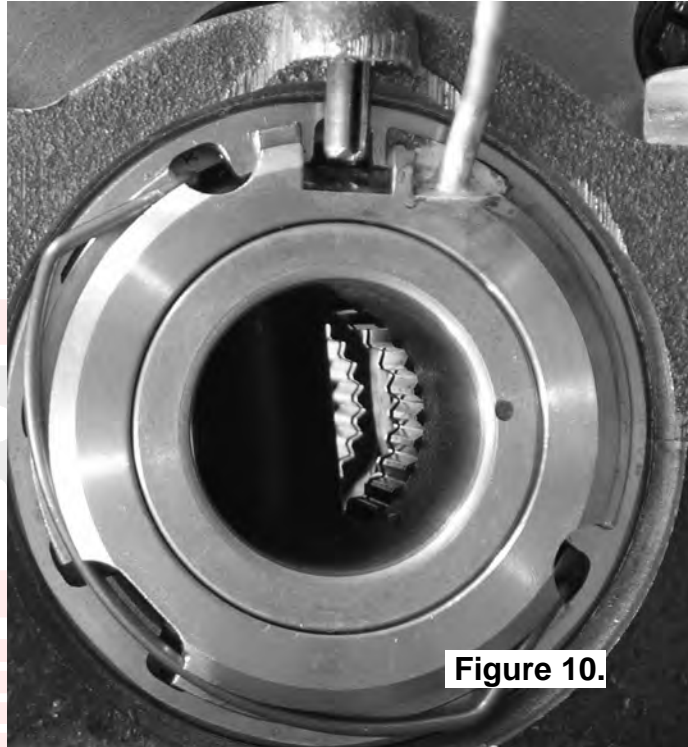

Figure 10.
- If your diff has roll pins instead of locking tabs, slightly rotate the adjuster nut so that the roll pin is in the center of one of the adjuster nut teeth as shown. When installing the roll pin, knock it down making sure that it will not contact the seal housing (Fig. 10.).